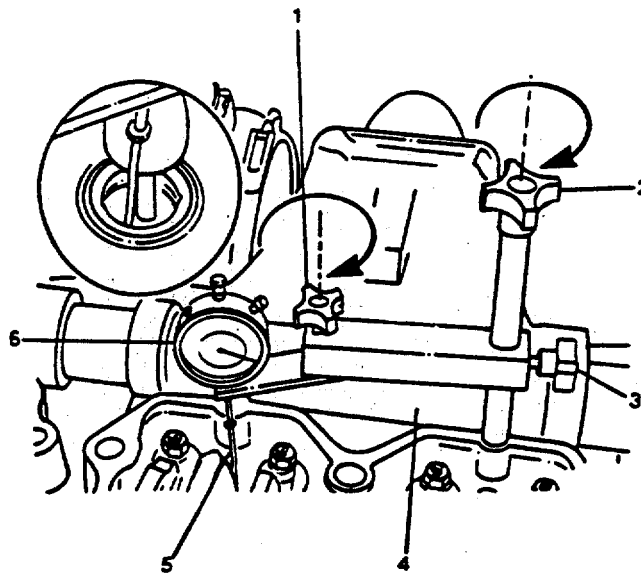

FIGURE 3-22. *Installing Dial Indicator and Support.*
To prevent damage to the indicator or to avoid getting an incorrect reading, install the dial indicator extension so that it clears the rocker lever. See FIGURE 3-22 .
- (c) Install the dial indicator (6, FIGURE 3-22) and the support (4) from the Injector Adjustment Kit so that the stem (5) of the dial indicator is on top of the injector plunger flange on cylinder No. 3.
- (d) Securely tighten the thumbscrew (1) and the hold down screw (2) in place.
- (e) Loosen the thumbscrew (3) and lower the indicator against the injector plunger flange until the stem (5) is fully compressed.